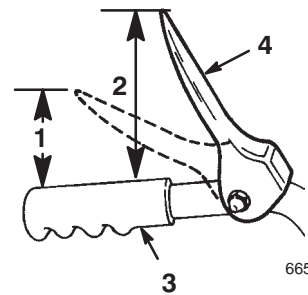

Figure 8
3. Check the distance between the top of the handgrip and the bottom of the auger/impeller drive control lever (Fig. 8). The distance should be approximately four inches (ten centimeters).
Note: The amount of force needed to compress the lever increases noticeably when you remove the slack from the auger/impeller drive belt (approximately one-half of the lever movement). The adjustment is correct when the force *begins* to increase and the distance between the top of the handgrip and the bottom of the auger/impeller drive control lever is one to two inches (2.5 to 5.0 centimeters) as shown in Figure 8.